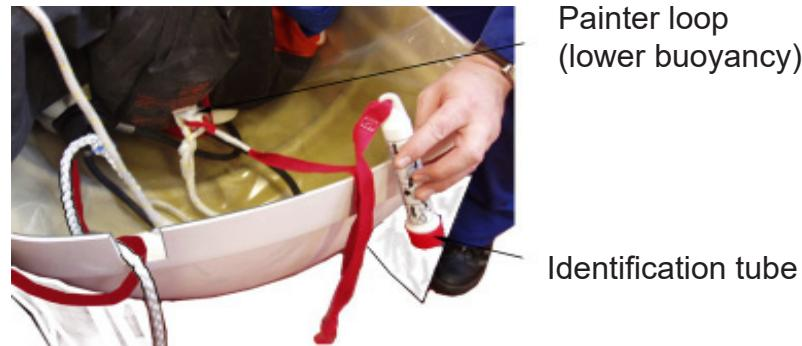

FIGURE A9-9
- 2.22 Locate the painter attachment patch on the lower buoyancy tube. Tie the liferaft identification tube, red webbing to the patch. Refer to FIGURE A9-9. Use a bowline knot and tape the flying end.